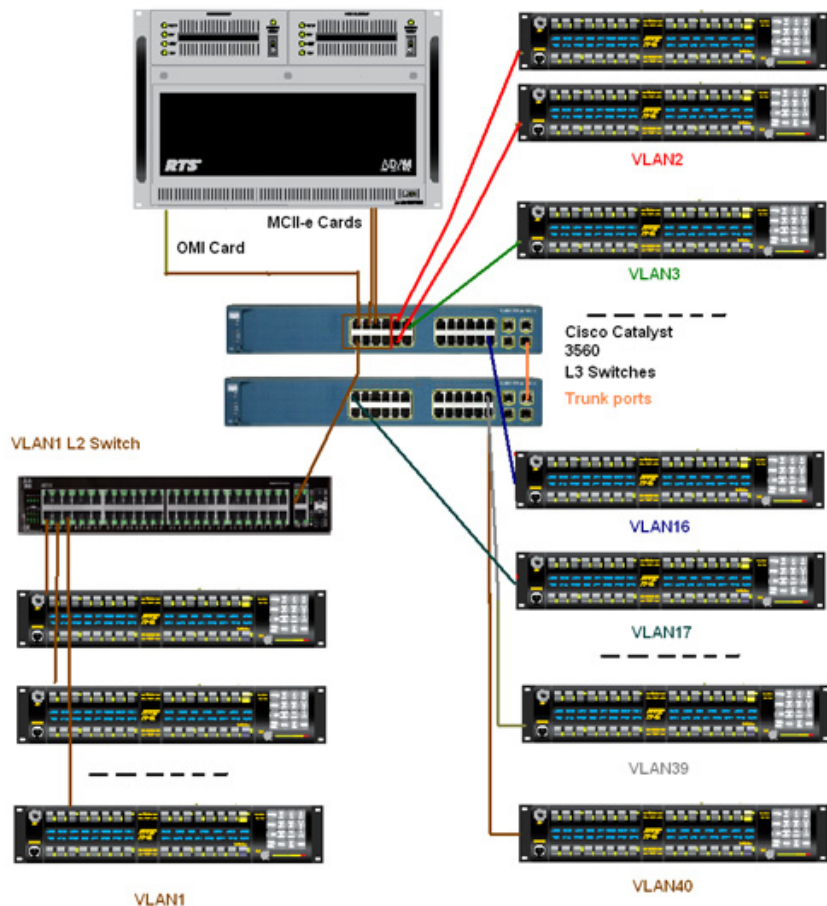

FIGURE 24. 40 VLAN System with trunked switches
In the System drawing (Figure 24), one (1) OMI card is shown supporting VLAN1 through VLAN 40 in a more complex system diagram. There are two (2) MCII-e cards being used as redundant DHCP servers, meaning that if one fails, the other takes over the DHCP responsibilities. There are two (2) Layer 3 switches connected creating trunked ports creating communication between all the VLANs. Also connected to the two (2) Layer 3 switches is a Layer 2 switch that is acting as a VLAN for multiple keypanels.